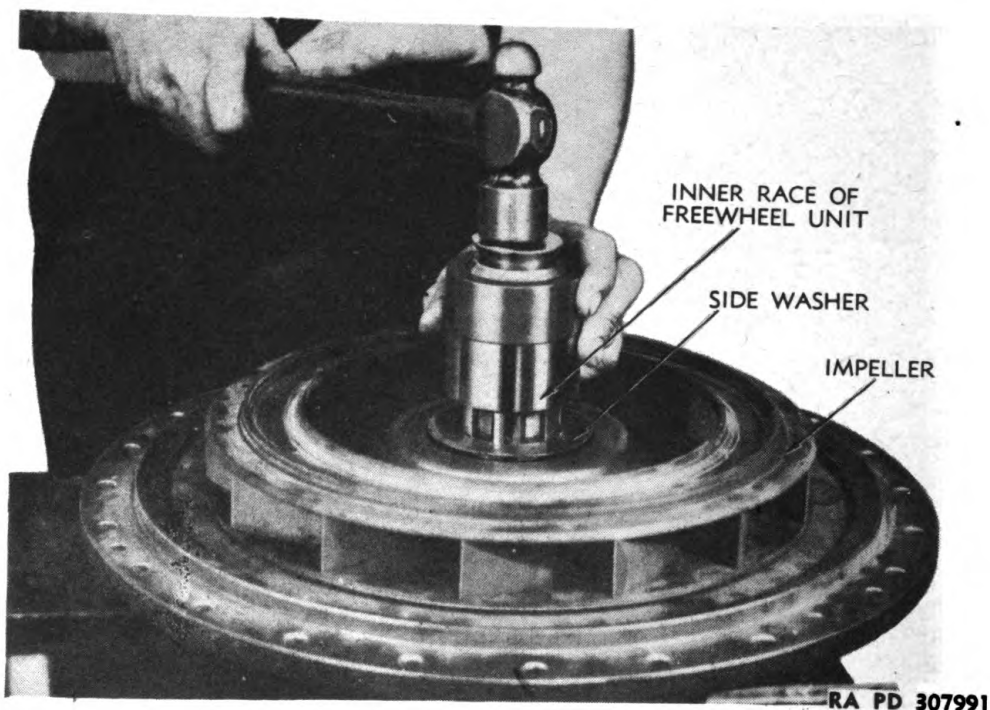

Figure 183 — Installing Free-wheel Inner Race
f. Install Free-wheel Inner Race and Roller Assembly on Input Shaft. Reverse the cover plate assembly to rest it on the input shaft flange, slip side washer onto shaft against impeller and drive or press inner race of free-wheel unit over splines on extension of input shaft as shown in figure 183. Assemble free-wheel cage, carrying rollers and sprags, in place over the inner race. **CAUTION: Free-wheel cage must be placed right side out or converter cannot function when assembled.** Observe that when properly placed, as in figure 192, the roller in each section is to the left of the sprag, and to the right of a section partition. Slip the other side washer and the lock washer